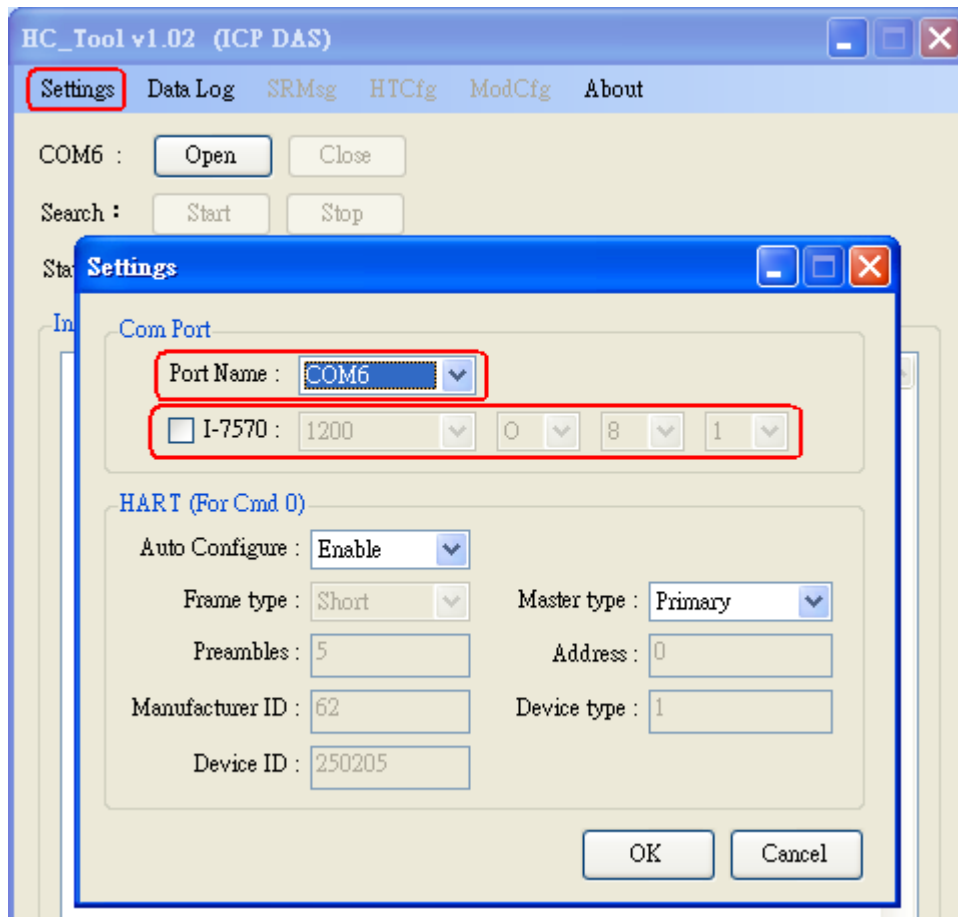

Figure 4-2: Set Serial Port No.
Please click “**Settings**” item to open setting window of serial port and HART parameters like Figure 4-2.
- (1) Please select serial port no. of PC like Figure 4-2.